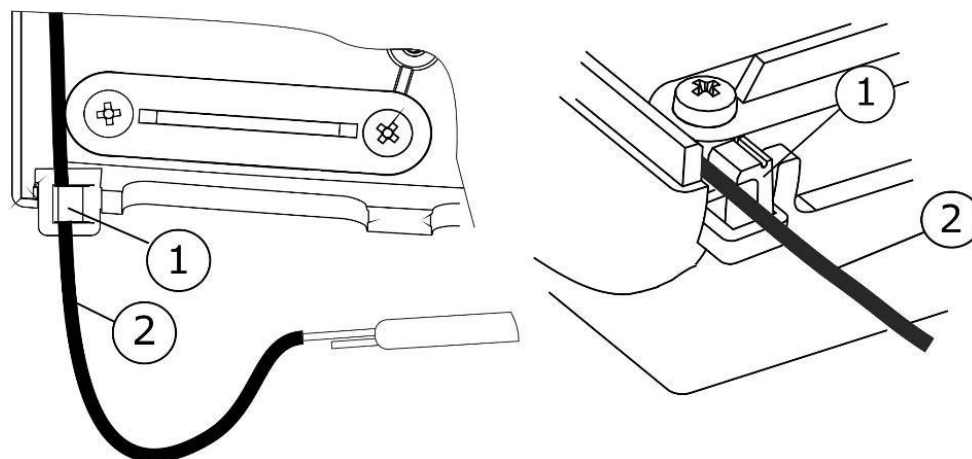

Figure 13. Outlet of the capillary tube of the emergency thermostat STB from the regulator distributor, where:
When replacing the emergency thermostat STB, its capillary tube (2) must be routed out of the internal distributor through the latch (1) – see figure 13.